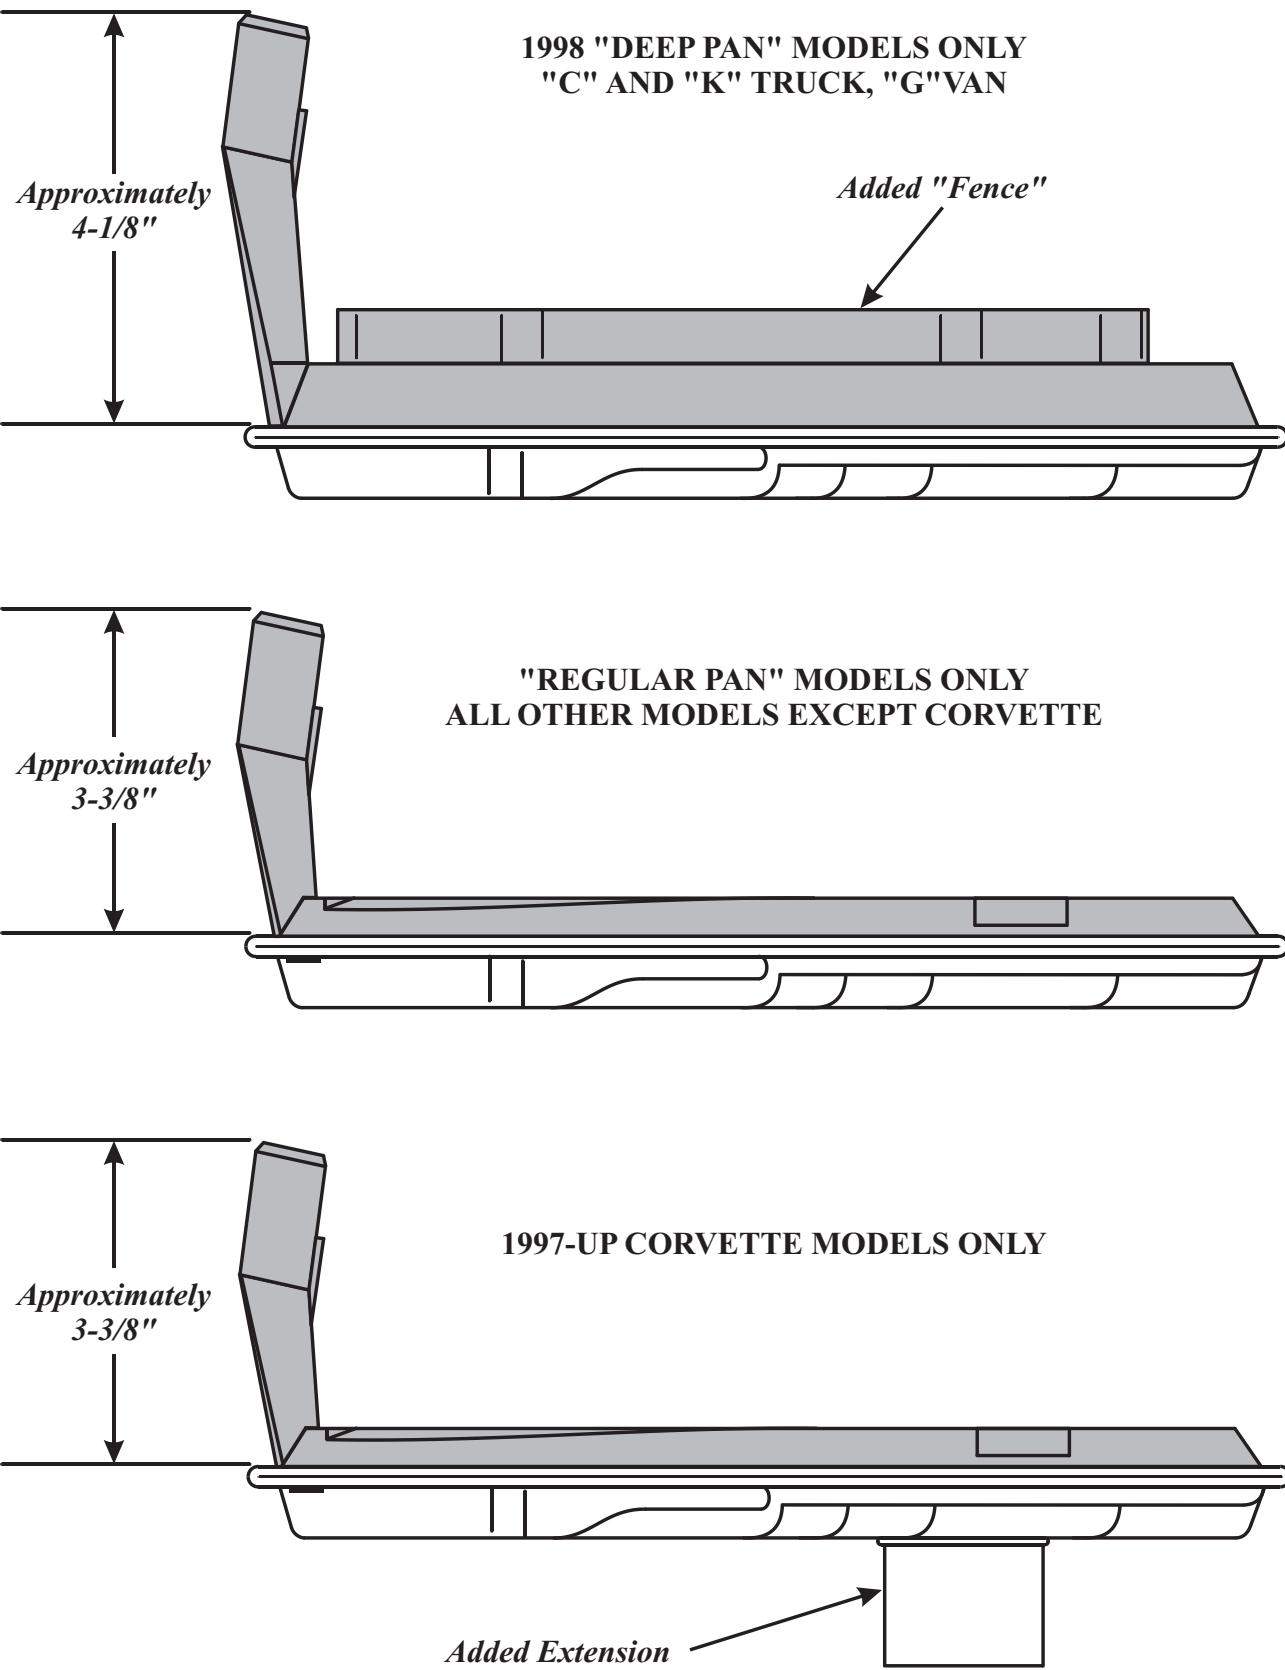

Figure 2
- (2) BOTTOM PAN FILTER - There are now three different filters for the 1998 model year. The bottom profile of the filters are all the same as shown in Figure 1. The side profiles however are different as the "Deep" pan requires the filter with the longer neck, the "Regular" pan requires the filter with the shorter neck, and the 97-up Corvette requires the filter with the added extension on the bottom. Refer to Figure 2.